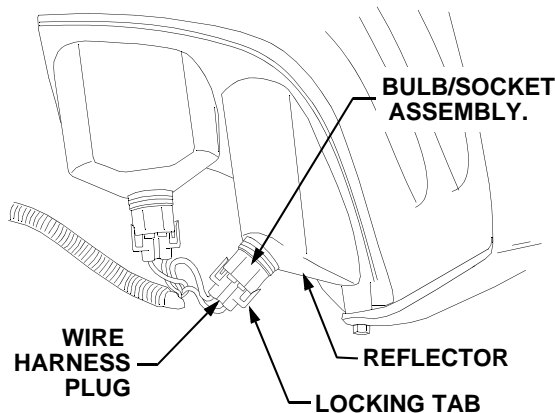

Figure 37
- Pull both locking tabs of the wire harness plug away from the bulb/socket assembly and unplug the wire harness from the bulb assembly. See Figure 37.